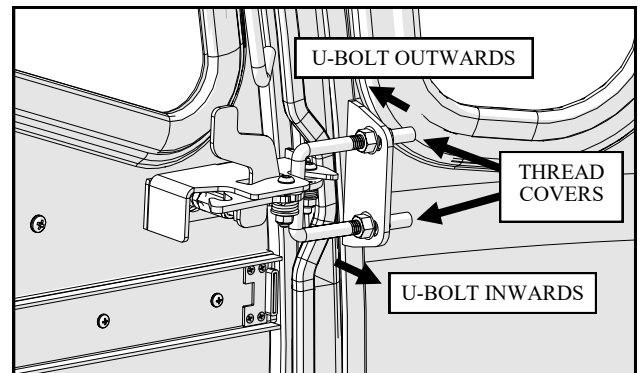

Fig. 3.3 (U-Bolt adjustment - left side)
(2) 9/16" Wrenches
3.3 Check for gaps on the front edge of the door seal. If there is a gap, adjust the U-Bolt inwards (see fig. 3.3 for the inward direction of the U-Bolt). Make sure you are able to close and latch the door without significant force. If you have difficulty latching the door, adjust the U-Bolt outwards (see fig. 3.3 for the outward direction of the U-Bolt).